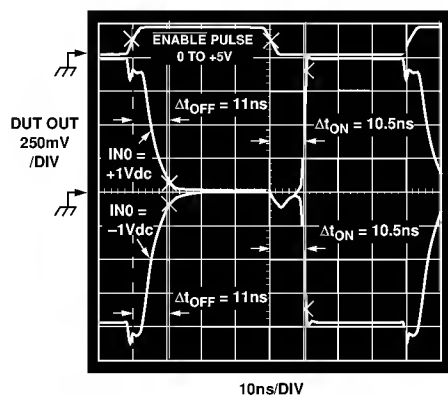

Figure 5. Enable and Disable Switching Characteristics
- ²ENABLE pin is driven with 0 V to +5 V pulse (with 3 ns edges). State of SELECT input determines which channel is activated (i.e., if SELECT = Logic 0, IN0 is selected). Set IN0 = +1 V dc, IN1 = -1 V dc, and measure transition time from 50% of ENABLE pulse (+2.5 V) to 90% of the total output voltage change. In Figure 5, Δt_{OFF} is the disable time, Δt_{ON} is the enable time.